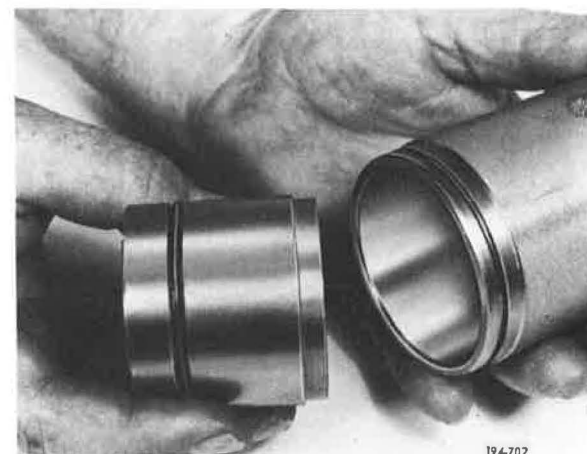

Figure 5-777. Removing Piston
13. Remove Hi-range piston from Hi/Direct shift cylinder. See Figure 5-777.